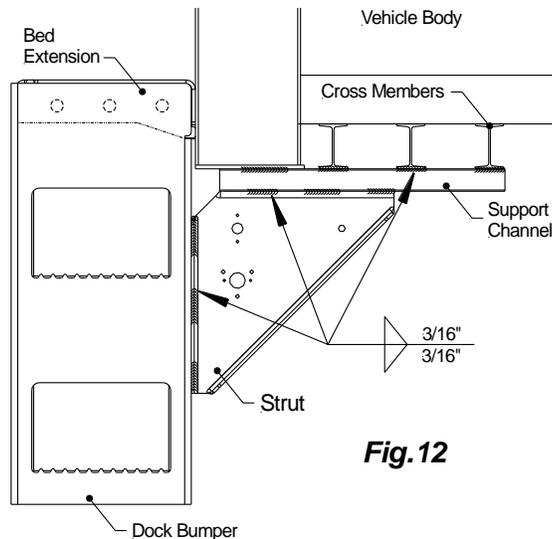

**Fig.10**
1. Support Dock Bumpers: Clamp dock bumpers to bed extension as shown, **Fig.10**. Check for squareness. Tack weld the dock bumper.